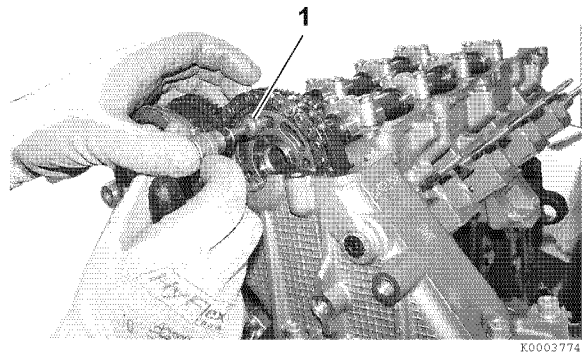

Figure 5-76
2. Loosen one bolt (1, **Figure 5-76**).